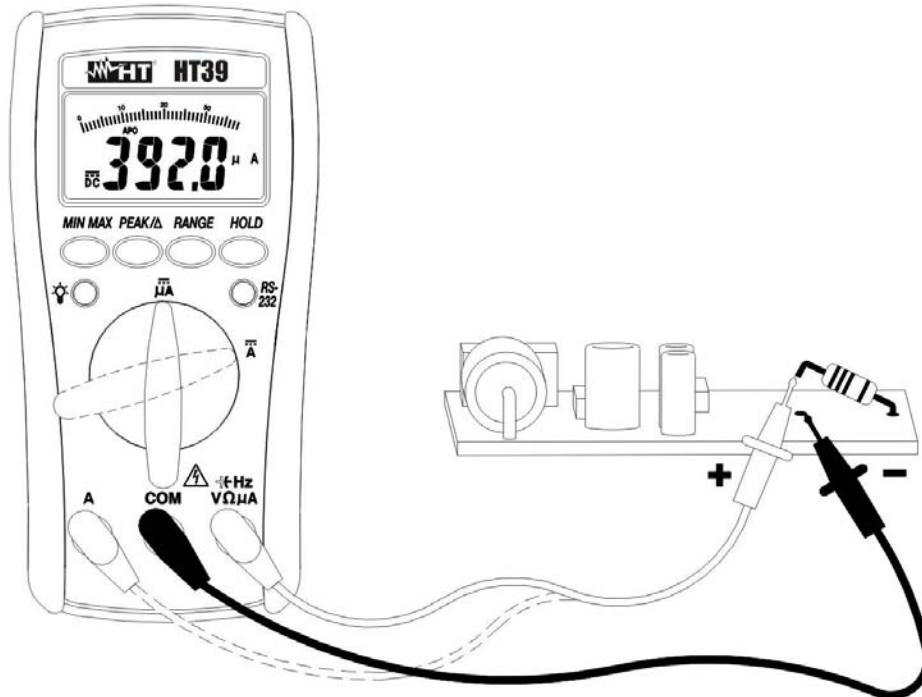

Fig. 5: DC Current measurement
3. Insert the red test lead into **A** jack and the black plug into **COM** jack (Fig. 5).
4. Connect red and black plugs in series with the circuit under test respecting the polarity and current flow indicated in Fig. 5.
8. The symbol "-" on the display means that current has opposite direction than shown in Fig. 5. Press **RANGE** key for manual range only active in **DC μA** position of the rotary selector.